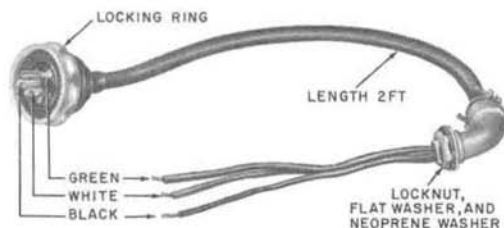

Fig. 12—KS-19580, List 30 Power Cord Assembly
- 2.25 KS-19580, List 30 power cord assembly (Fig. 12) is available for overhead power.